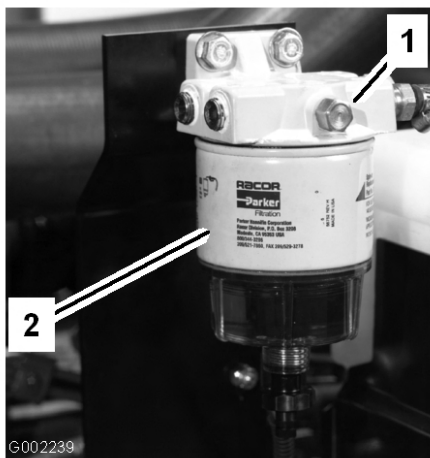

Figure 42
3. Open the vent plug on the fuel/water separator (Figure 42)